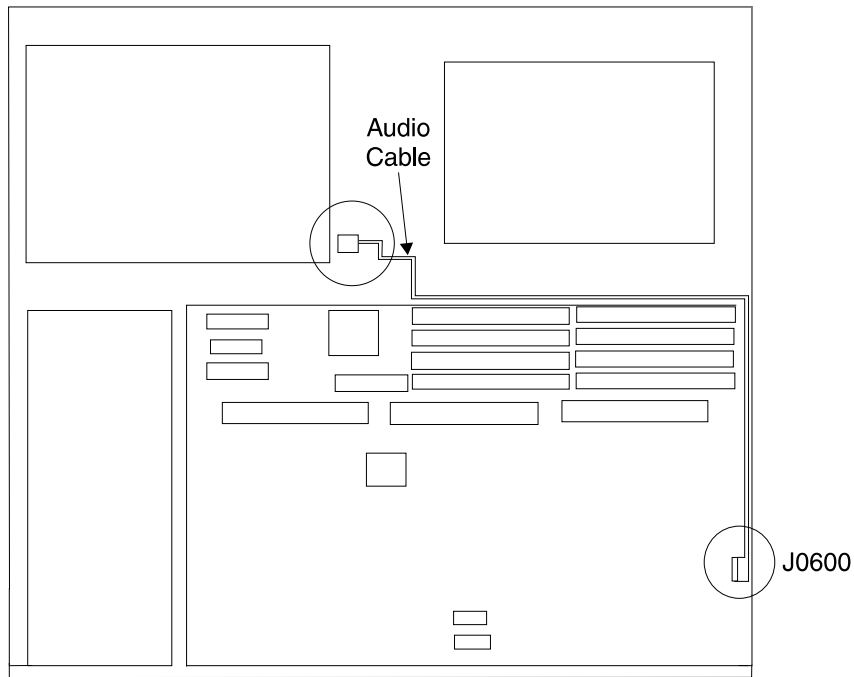

Figure D-33: Installing the *Sun SPARCserver 5* Audio Cable
5. **Sun SPARCserver 5 only.** Plug one end of the audio cable into the Audio Out Port on the rear of the drive. Plug the other end of the Audio cable into J0600 on the main logic board (see Figure D-33). Go to Step 6.